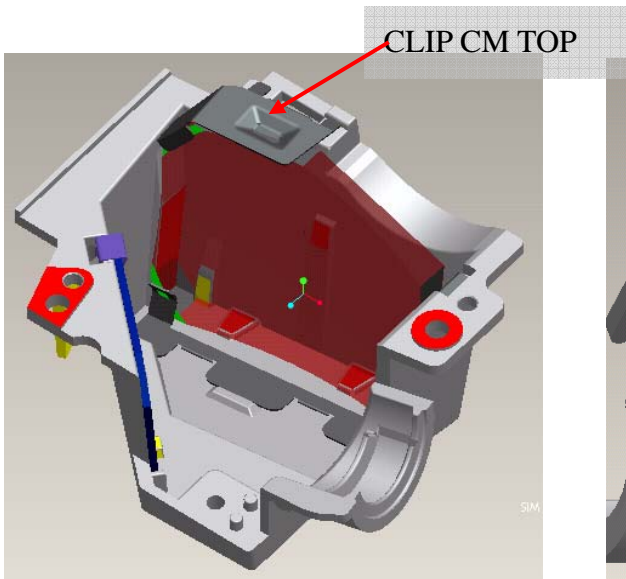

Fig. 6-9
- V. Assemble "CLIP of TOP" to the HSG ILL (Fig. 6-9)